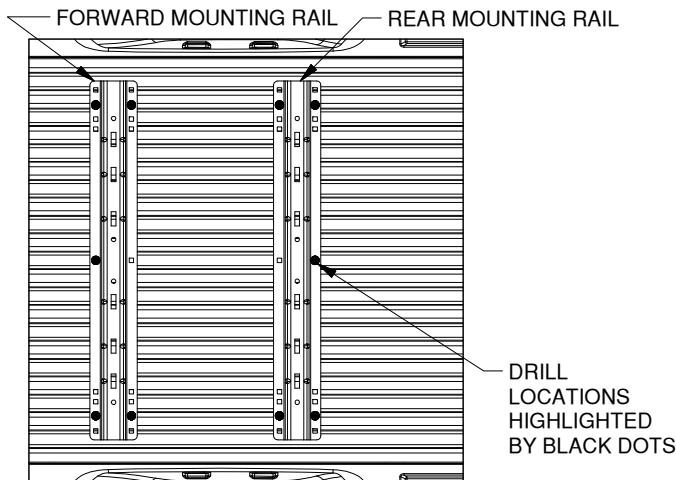

Figure B2: Detail view over bed, showing drill locations for the forward and rear mounting rails.
- 2. Mark hole locations.** While carefully ensuring the mounting rail does not move, use a center punch tool to mark the 5 drill locations on the rear rail. See Figure B2 for hole marking locations for this installation (forward rails will install in a later step). Once all 5 rear rail locations are clearly marked, move the bed rail out of the way and drill each location with an 1/8" drill bit.
- 4. Drill forward mounting holes.** Using the same methods as used for the rear mounting rail, mark, drill, check, and enlarge the holes for the forward mounting rail. Start at "DRILL REAR MOUNTING HOLES" section, Step 2, on a previous page. Notice that the hole locations are slightly different than the rear rail, see Figure B2 (on the third page).